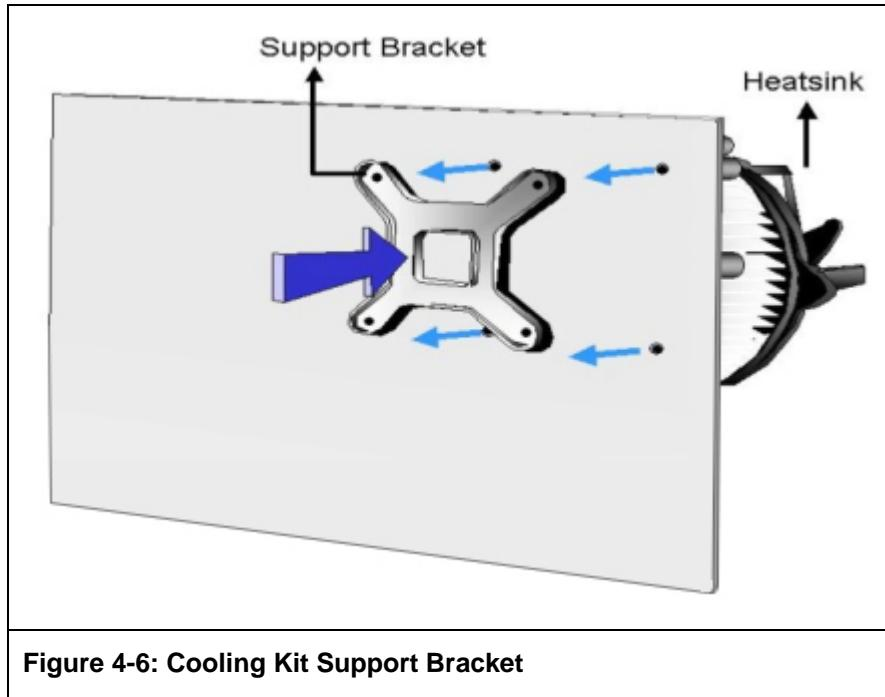

Figure 4-6: Cooling Kit Support Bracket
Step 1: A cooling kit bracket is pre-installed on the rear of the motherboard. See **Figure 4-6.**